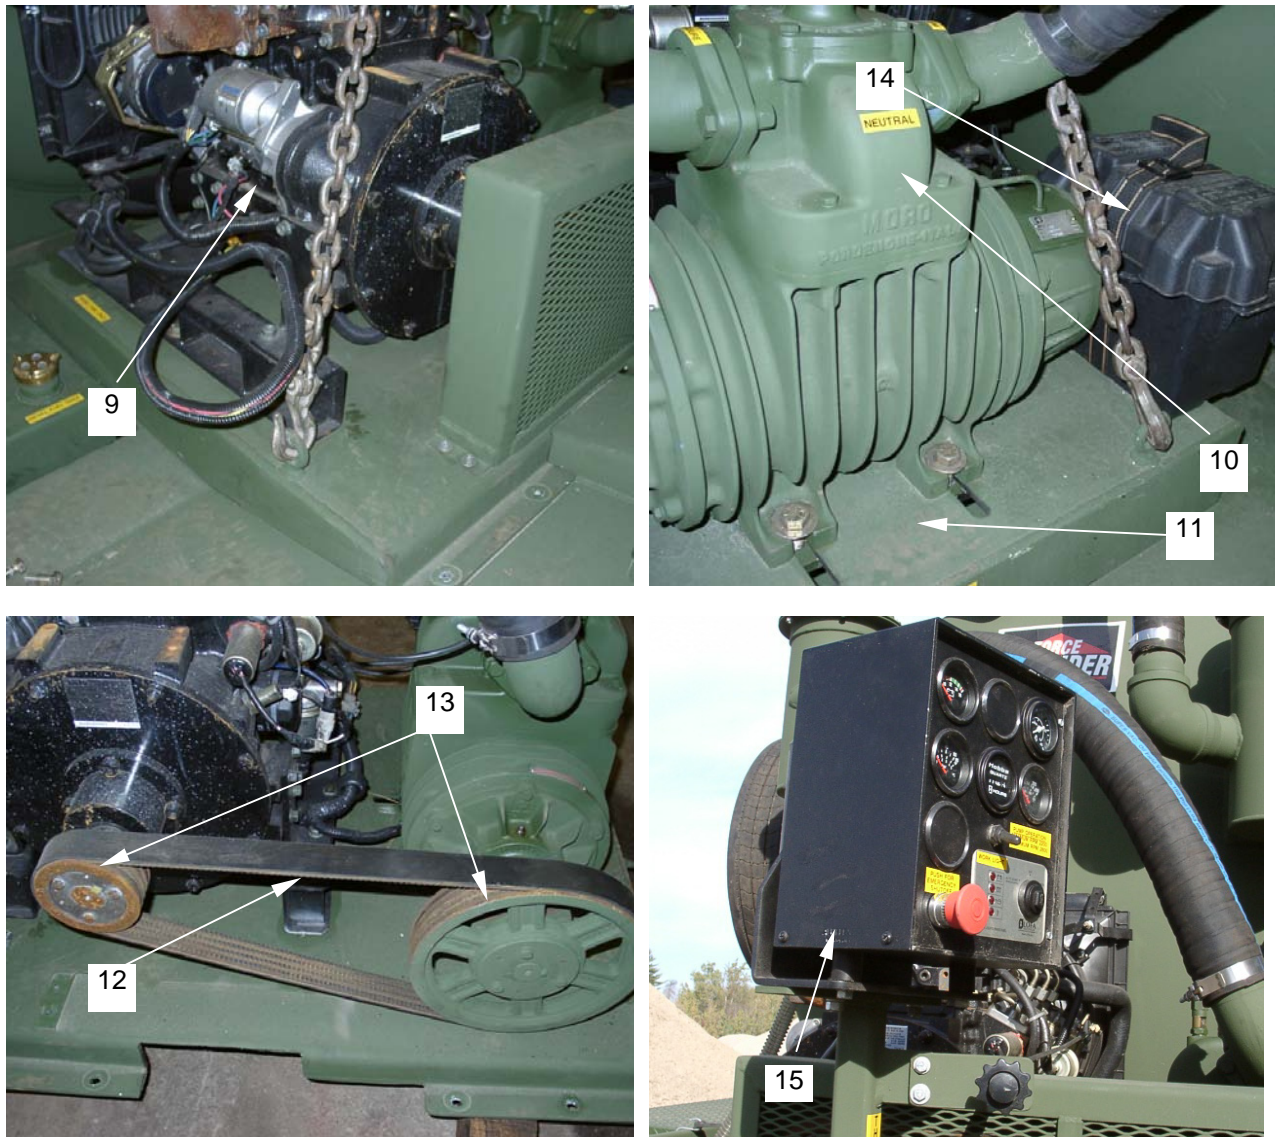

Figure 2. Power System
Power is furnished by a water-cooled, four-cycle, in-line overhead valve type diesel engine (9) mounted together with the vacuum pump (10) on a removable skid (11) that is bolted onto the front of the trailer frame. The engine drives the vacuum pump with a belt (12) attached to the pulleys (13). The engine (9) also powers the 12-Volt electrical system used on the trailer and maintains the battery (14). Engine performance is indicated on a control panel (15), which incorporates oil pressure (16), battery charge (17), temperature (18), tachometer (RPM) (19) and hour meter gages (20). The control panel also incorporates the ignition (21), emergency shutoff, (22) the rear work light toggle switch (23), a preheat light (24), and warning lights for temperature (25), oil pressure (26) and battery charging (27) conditions. The engine throttle (28) is mounted above the pulley guard (29). The engine exhausts through a vertically mounted cylindrical muffler (30). See Figures 2 and 3.